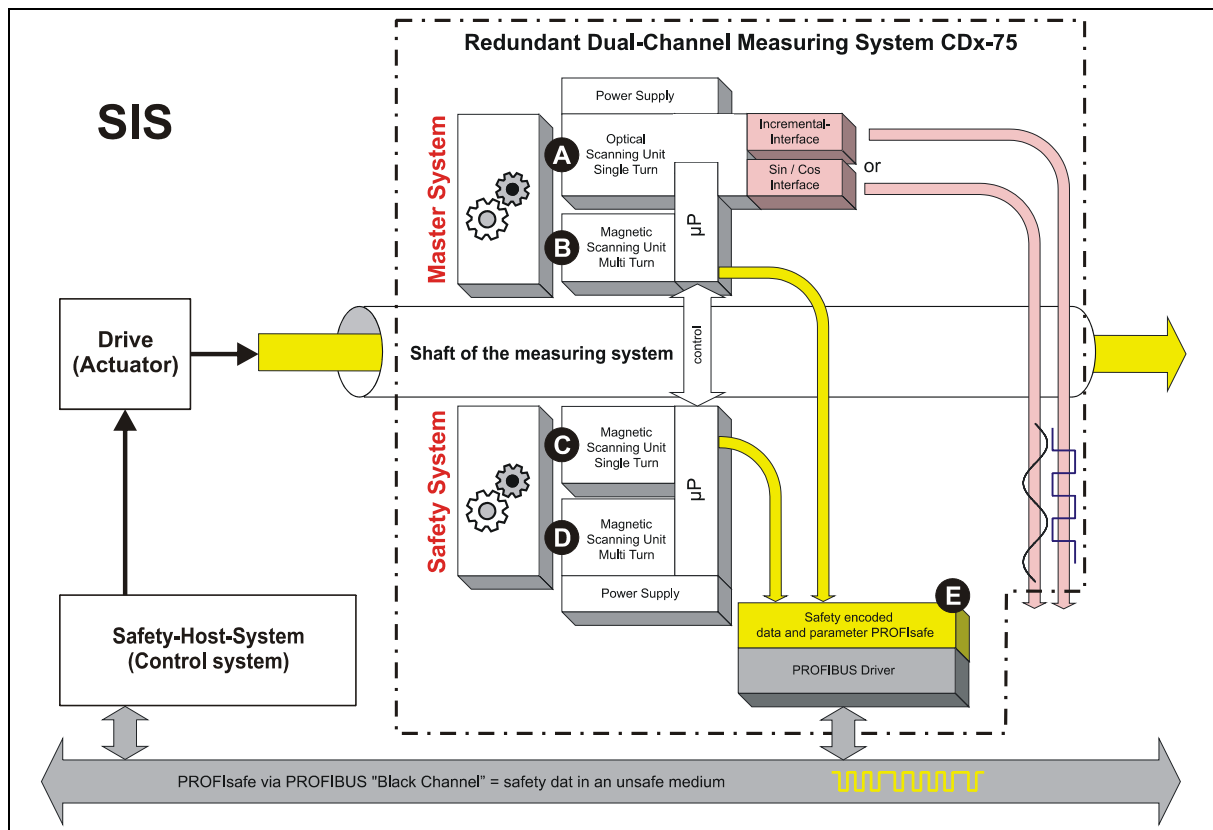

Figure 1: System diagram
- The measuring system internally compares the positions detected by both channels in two channels, also determines the speed in two channels and transfers the safe data to the PROFIBUS in the PROFIsafe protocol, see Figure 1 "Black Channel" on page 116